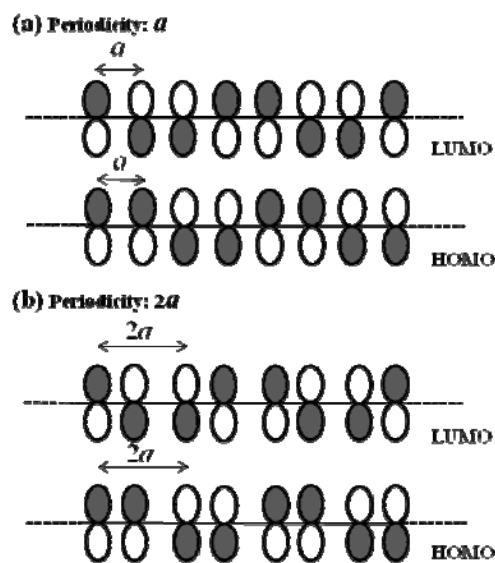

Fig. 3 : Illustration for the LUMO and the HOMO of the 1D chain with a periodicity of a (upper) and $2a$ (lower).
- e) Since the energy-level spacing of the 1D chain is extremely small, the energy levels form continuum states. Therefore, thermal excitation from HOMO to LUMO is easily induced at room temperature. Although such thermally excited electrons are mobile in the chain and can contribute to electric conductivity, pure polyacetylene is a poor conductor of electricity. This is because the carbon atoms in polyacetylene are not arranged with a periodicity of a ; instead, these atoms are arranged with a periodicity of $2a$ because of the alternating arrangement of single and double bonds. If the HOMO and LUMO of the 1D chain with periodicities of a and $2a$ are assumed as shown in Fig. 3(a) and (b), respectively, how do the energy levels of the HOMO and LUMO alter when the periodicity changes from a to $2a$? Choose the correct answer from the following choices.